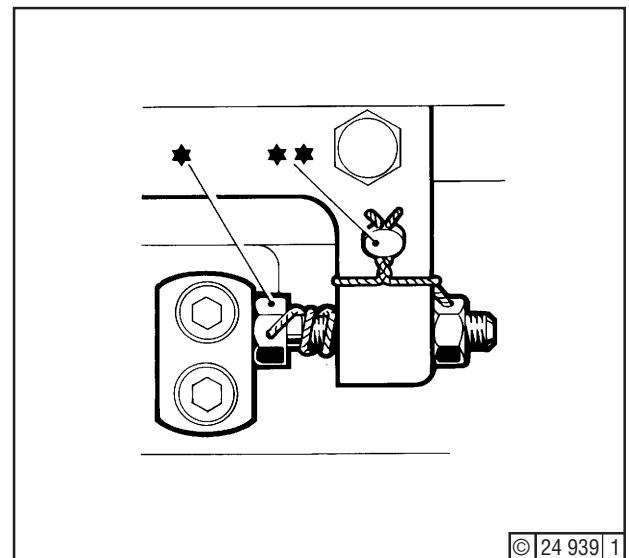

Fig. 18
13. Check that linkage abuts at stop screw (*) - Fig. 18 - when pushed to maximum load (point A13).